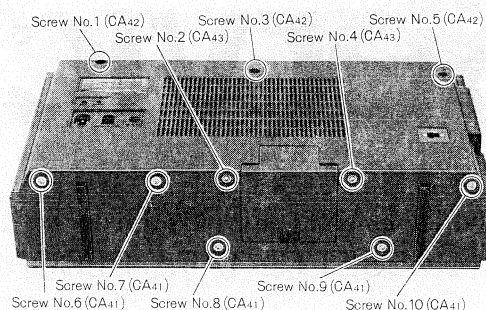
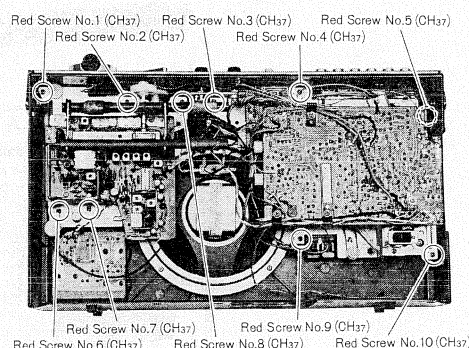
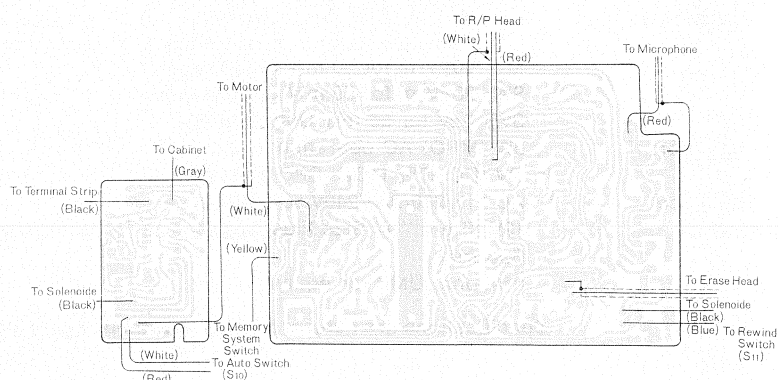

Fig. 1
Fig. 2
Fig. 5
1. Remove the ten (10) screws for the cabinet back cover (nos. 1~10), as shown in fig. 1.
4. Pull out the two (2) lead sockets from chassis.
5. Pull out the two (2) lead sockets from cabinet back cover.
6. Remove the three (3) knobs for the tuning, band and fine tuning.
7. Remove the five (5) red screws for the chassis (nos. 1, 2, 6, 7 & 8), as shown in fig. 2.
2. Remove the two (2) knobs for the rec level and mic mixing.
3. Remove the five (5) red screws for the chassis (nos. 3, 4, 5, 9 & 10), as shown in fig. 2.
5. Pull out the five (5) lead sockets from chassis.
6. Pull out the two (2) lead sockets from speaker terminal.
7. To remove chassis completely, unsolder lead wires to microphone and cabinet from chassis, as shown in fig. 5.
5. To remove tape deck completely, unsolder lead wires, as shown in fig. 5.